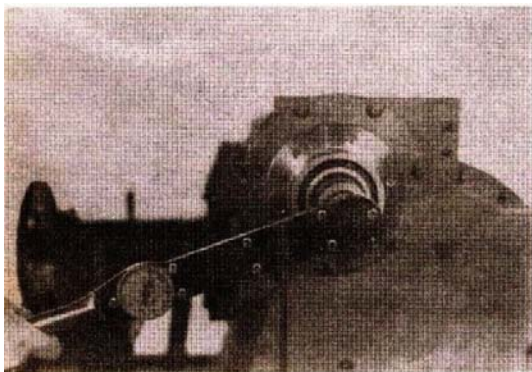

Fig. 14-74, Tighten the fan hub shaft nut
3. If the fan hub shaft nut was loosened or remove, tighten to 150 ft-lbs (203 Nom) torque. Fig. 14-74. Replace the cotter pin.